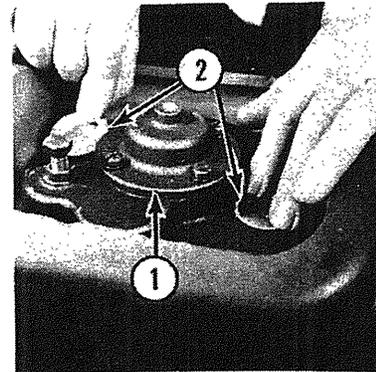

Fig. 3-38
- CC. Install the bearing retainer and four screws and lock-washers (1, Fig. 3-38).
- GG. Put in the remainder of the lubricant through the filler openings in the bearing carrier. Run the mixer for a brief time then press in the two friction plugs (2, Fig. 3-38).